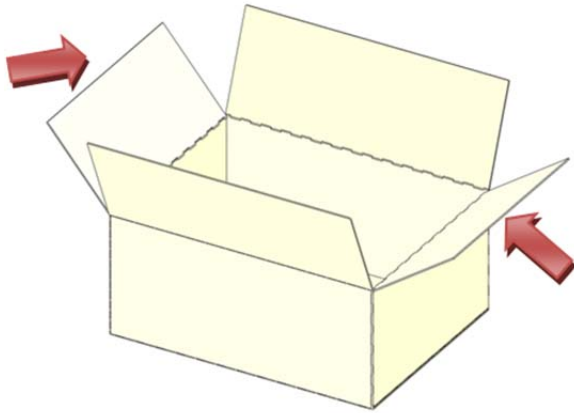

Figure-27
- i. Fold Minor Flaps In As Shown In **Figure-27**